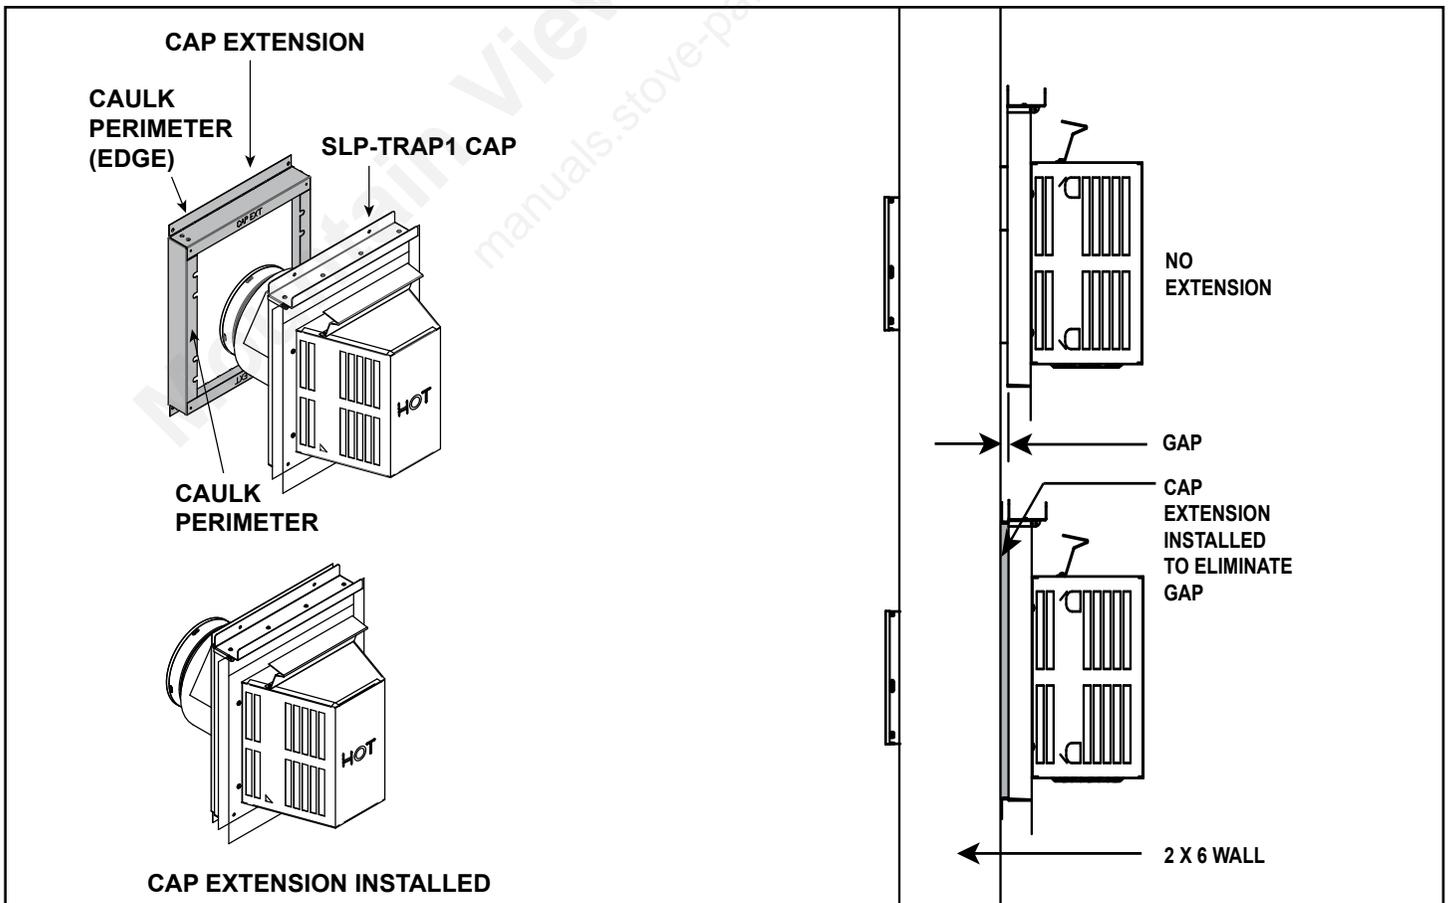

Figure 11.4 Cap Extension Installation
NOTICE! Install a cap extension if gap exists between the wall and the back of the termination cap. See Figure 11.4. An SLP-TRAP1 will generally be used with In-Wall installations.
17. Install vent and trap cap extension if a gap exists between the exterior wall and the cap. To prevent drafts, the cap extension should be sealed with caulk that has a minimum of 300°F continuous exposure rating to seal gaps of the extension. See Figure 11.4.